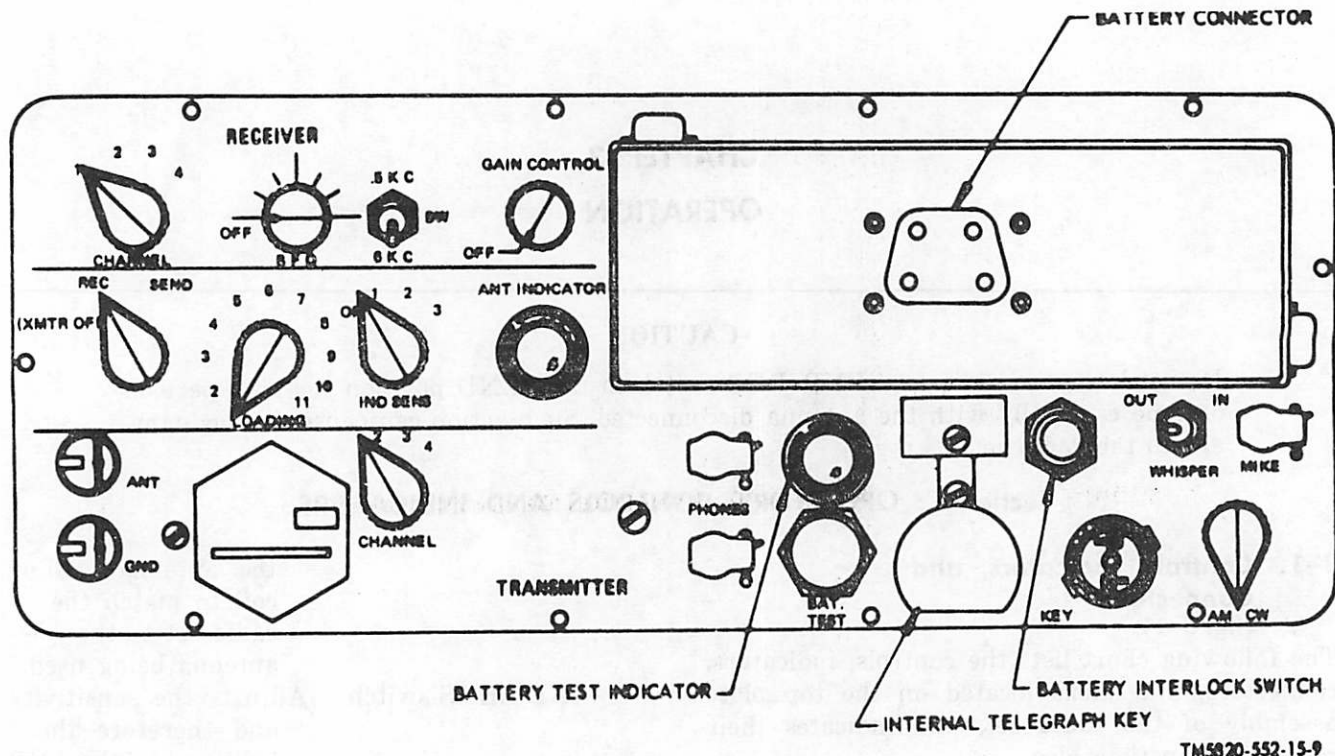

Figure 3-1. Radio Set AN/PRC-64A, controls, indicators and connections.
f. Referring to figure 3-1, connect a 50-ohm, 10-watt resistor from the ANT to the GND terminals of the radio set.
c. Referring to figure 3-1, set the REC-SEND switch to REC, the BFO to OFF, the BW (bandwidth) to .5 KC-6KC switch to 6KC and the GAIN CONTROL to its maximum clockwise position. Connect a headphone to one of the PHONES jacks.
2-8. Testing the Battery (fig. 3-1)
3-1. Controls, Indicators, and Connectors (fig. 3-1)
3-5. General Starting Procedure (fig. 3-1)
(fig. 3-1)